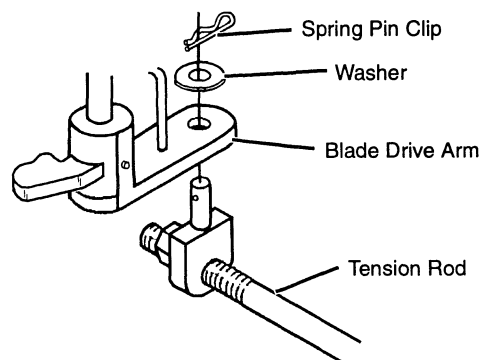

FIG. 50
- Attach tension rod to blade drive arm on bottom of mower with washer and spring pin clip. (See Fig. 50)